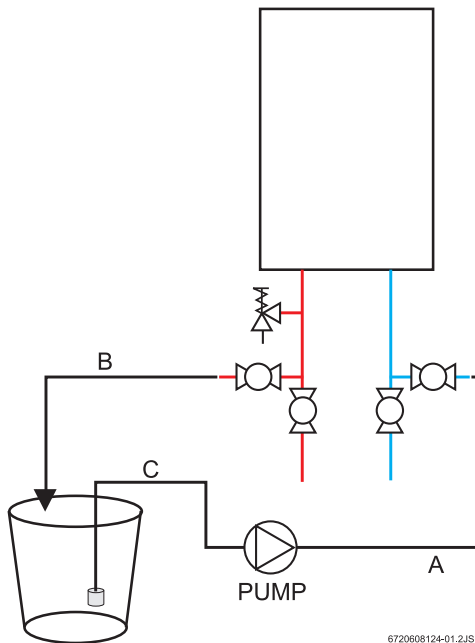

Fig. 63
5. Connect a line (A) from the outlet of the circulating pump (installer supplied) to the inlet water fitting on the water heater (see Fig. 63).
6. Using another line (B), connect to the water outlet fitting on the water heater. Route the other end of this line into a descaling reservoir.
7. Using a 3rd line (C) from the descaling reservoir, connect to the inlet side of circulating pump. Install a filter on the end of this line in the descaling reservoir.